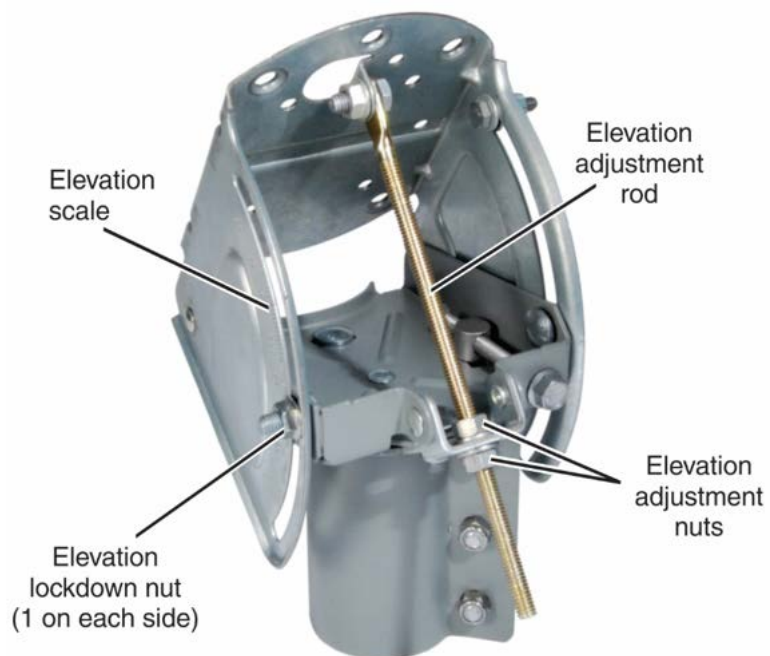

Figure 26: Elevation adjustment components
1. Loosen the elevation lockdown nuts on each side of the Az/El mount. See Figure 26.